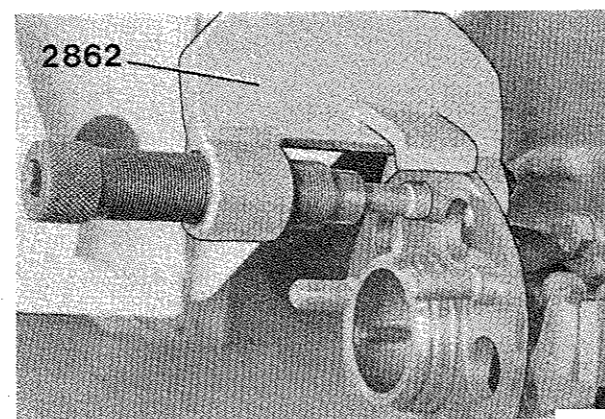

Fig. 10.21 Tool 2862 used to remove and refit wheel studs *in situ* (Sec 31)
- 5 If a pusher tool similar to that shown in Fig. 10.21 is available, stud renewal can be carried out *in situ*. Otherwise, remove the halfshaft (Chapter 8, Section 5) and proceed as for the front studs.